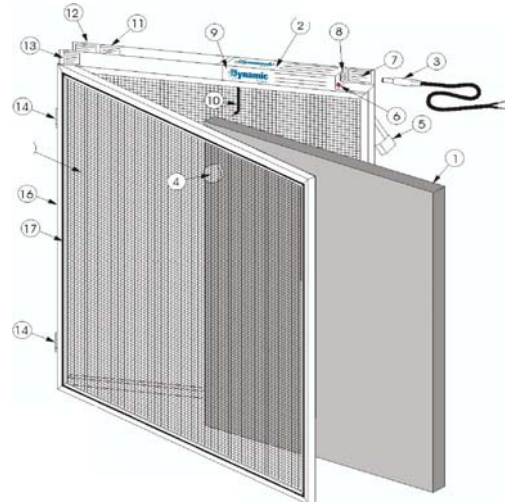

Figure 7
- 2) Replacement Media Pads can be ordered from your heating and air conditioning contractor or by ordering online at www.DynamicAQS.com. Have the model number or unit size available when calling. Refer to the size label on the unit (item 12 in figure 7) for the unit size. Air cleaner media pads are sized according to the size of the overall air cleaner and NOT the size of the media pad itself.